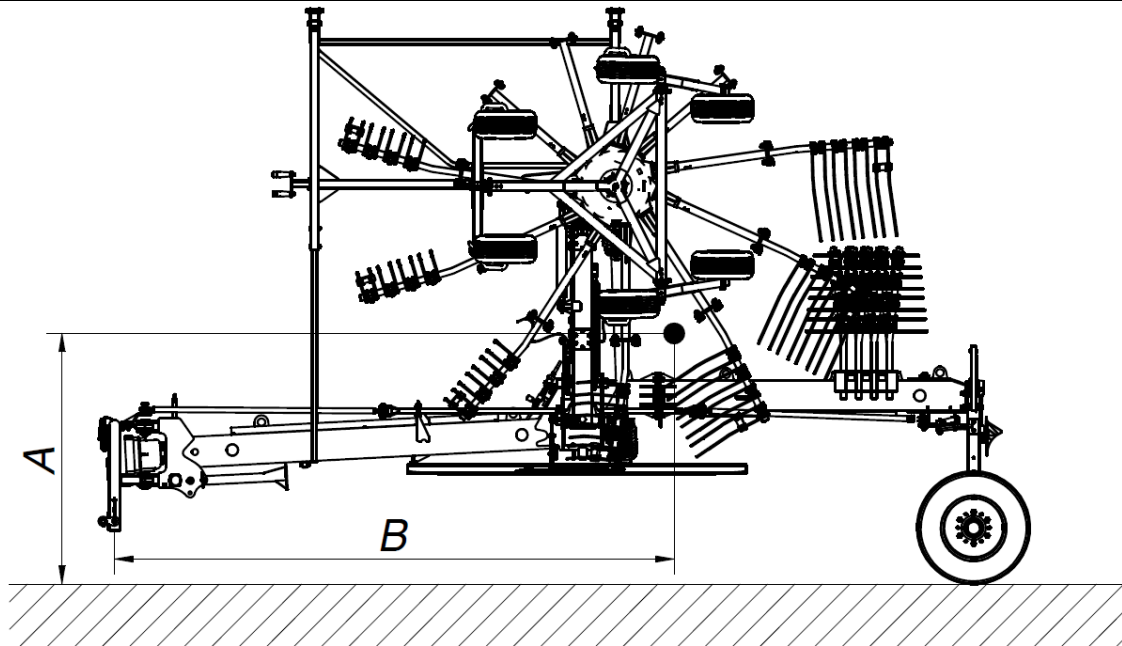

Fig. 5. Location of center of gravity on Z2 rotary rakes
- ❑ Grab the rake by any lifting devices only in the places indicated by hook sign (**Fig. 5**),